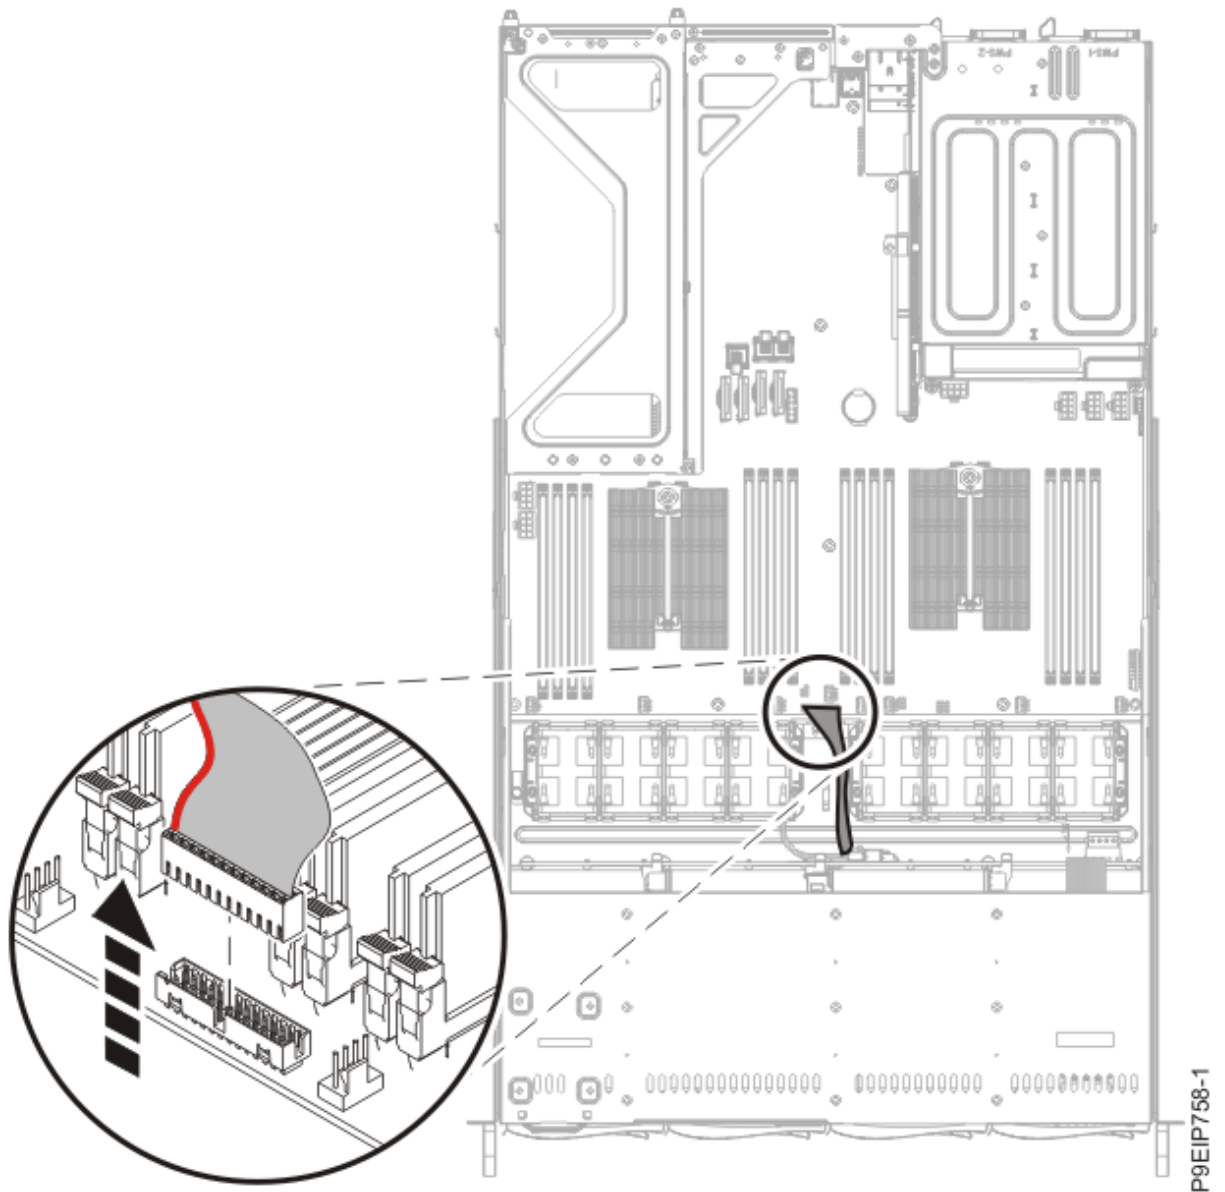

Figure 36. Removing the operator panel cable
8. Remove the operator panel cable from the system backplane as shown in Figure 36 on page 42.